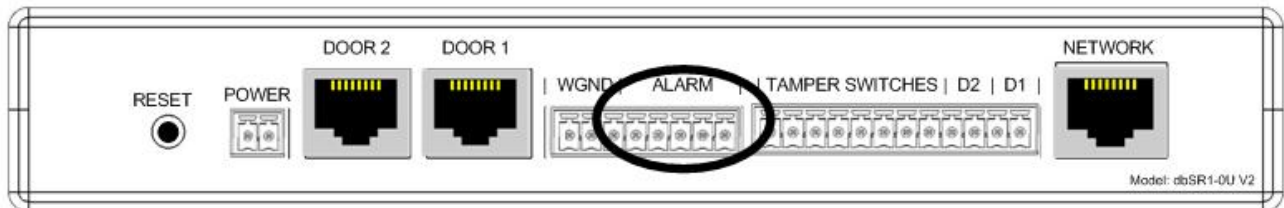

Figure 19a
- The Alarm Output terminals are shown in Figures 19a and 19b.